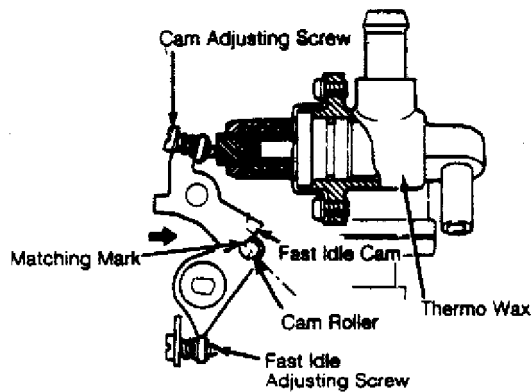

Fig. 12: Checking Fast Idle Cam
2) If the matching mark and center of the cam roller do not align, turn the cam adjusting screw until proper alignment is obtained. See Fig. 12.